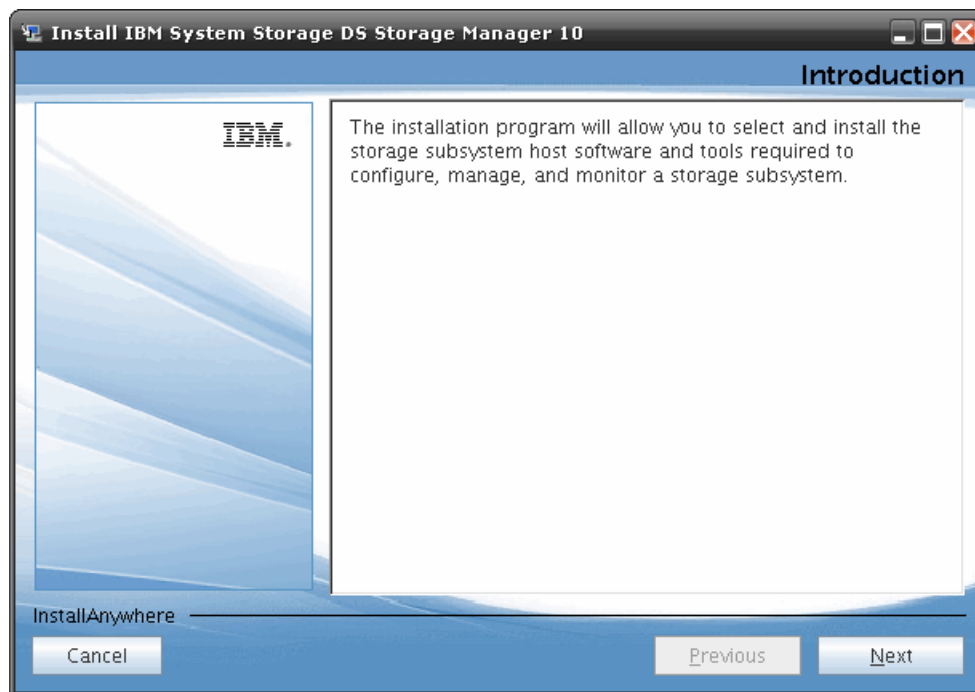

Figure 5-15 Introduction
4. Read the introduction and click **Next** as shown in Figure 5-15